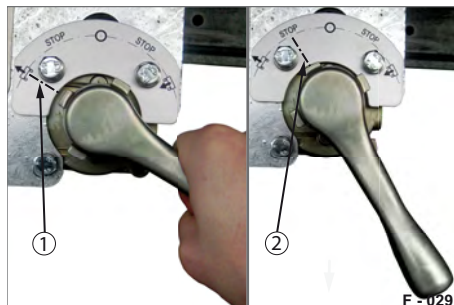

Fig. 26 Raising the trailer
- ▶ Press the turning lever inwards and turn it anti-clockwise towards the "Raise" icon (Fig. 26/1).
- ▶ When the height has been achieved, turn the turning lever back one stage into the "Stop" position (Fig. 26/2).